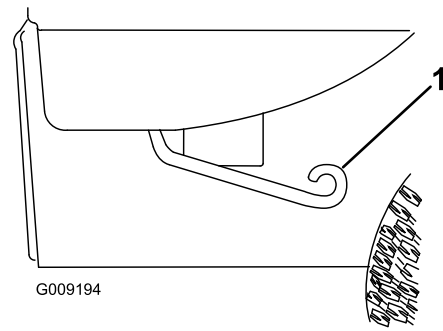

Figure 14
1. Lift the lever on either side of the box and lift the box up (Figure 14).